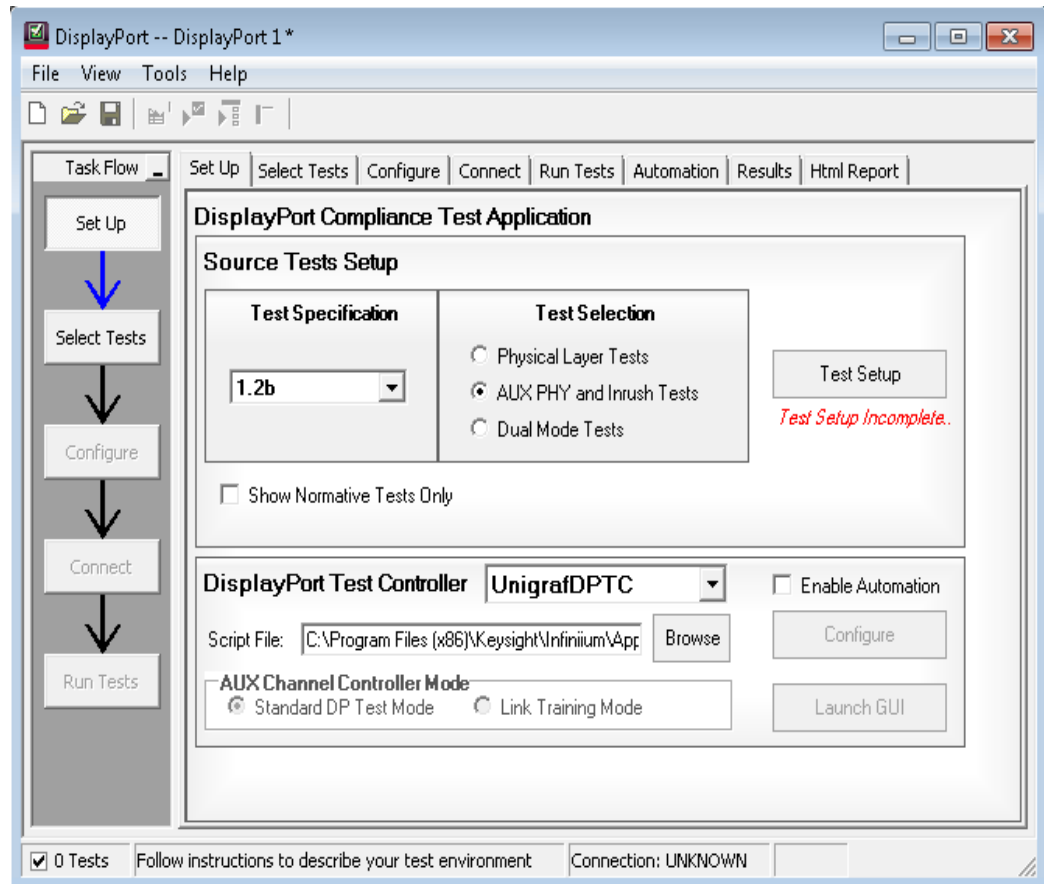

Figure 33 Set Up tab on the DisplayPort Compliance Test App
- 3 On the DisplayPort Compliance Test Application, click the **Set Up** tab (see Figure 33).